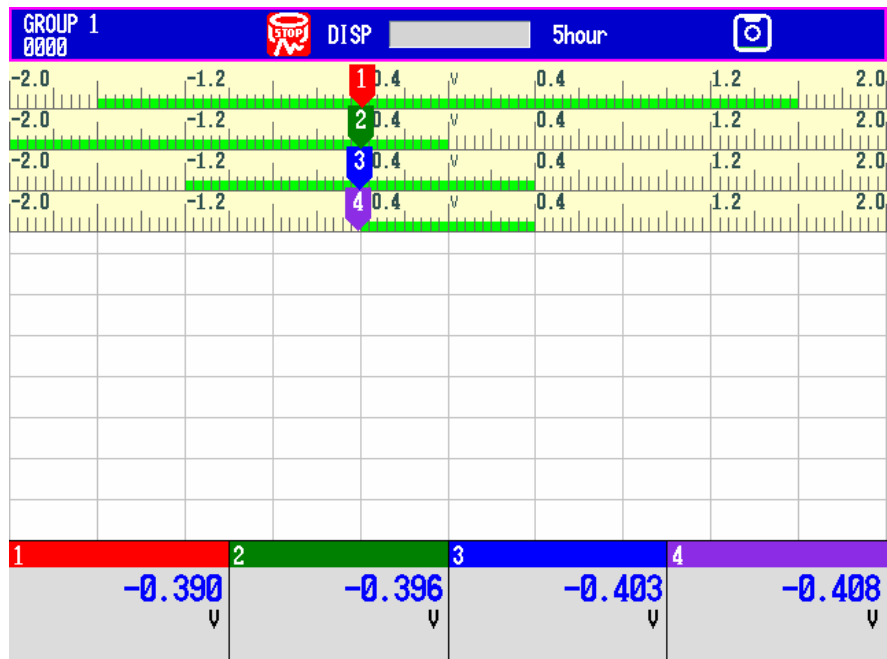

Fig. 11.1 Green Bands on scales
- a) In the scale and bar graph views of the trend window, green bands are displayed in the specified color. (For display examples, refer to Figs. 11.1 and 11.2.)